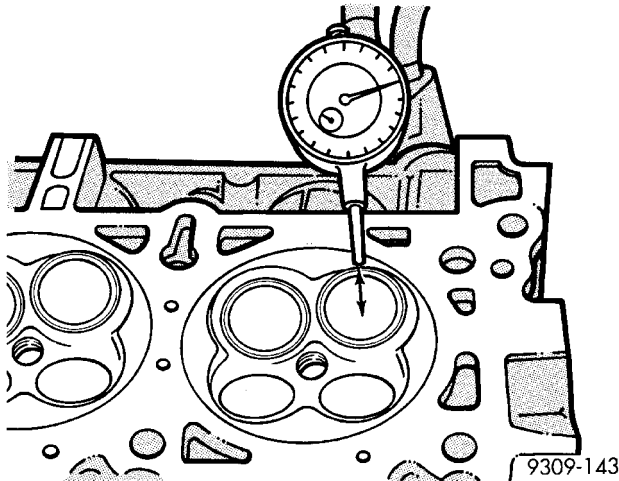
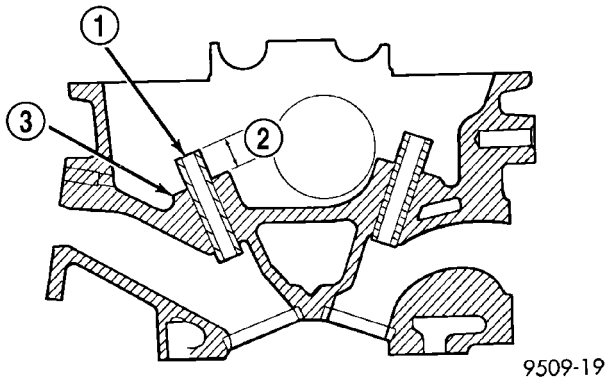

Fig. 48 Measuring Valve Guide
Fig. 49 Valve Guide Height
(1) Measure valve stem-to-guide clearance as follows:
(2) Install valve into cylinder head so it is 15 mm (0.590 in.) off the valve seat. A small piece of hose may be used to hold valve in place.
(3) Attach dial indicator Tool C-3339 to cylinder head and set it at right angle of valve stem being measured (Fig. 48).
(4) Move valve to and from the indicator. (Refer to 9 - ENGINE - SPECIFICATIONS)
(5) Check valve guide height (Fig. 49).